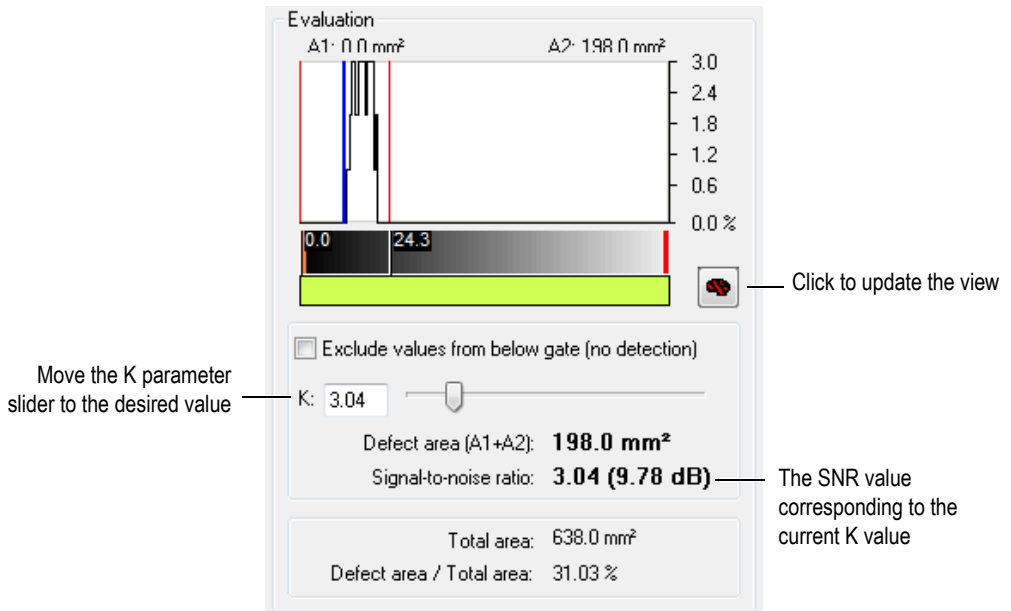

Figure 7-32 Adjusting the K value
6. In the **SNR Analysis Utility** dialog box (see Figure 7-32 on page 371), the SNR value is directly related to the **K** parameter slider value: